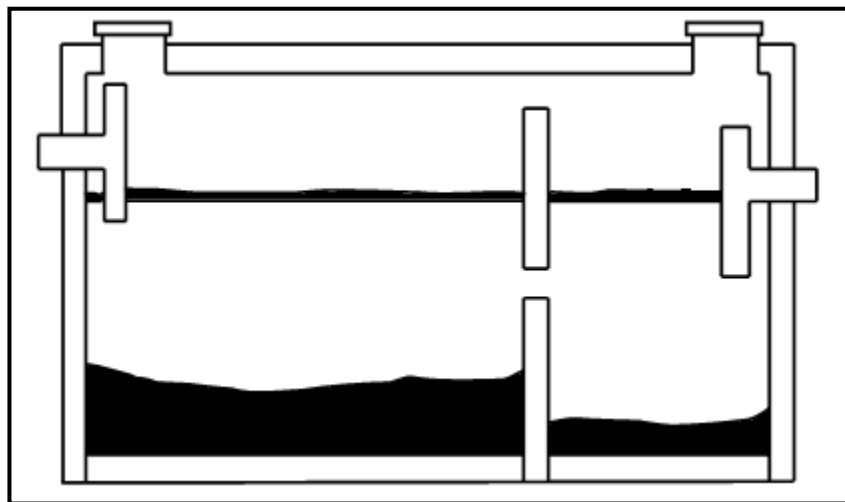

FIGURE 6.9
- 6.9 FIGURE 6.9 below shows a sectional view of a septic tank. Study the drawing and explain the working process of a septic tank. (2)